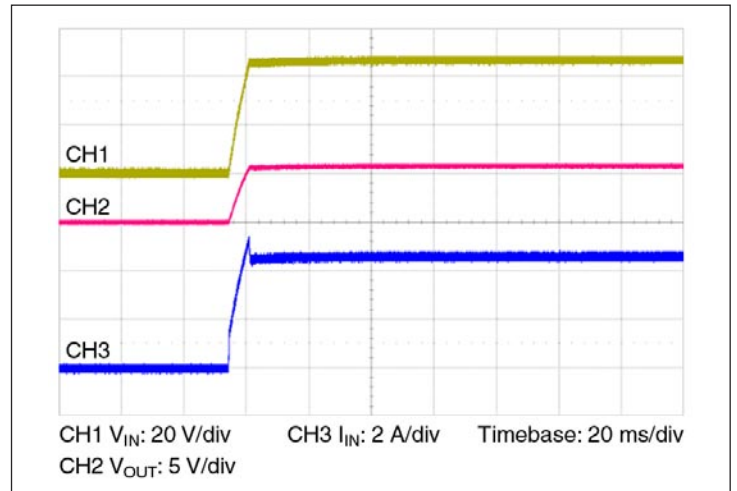

Figure 10 — Start up from application of V_{IN}; VC pre-applied C_{OUT} = 4000 μF
- **Normal operation (VC applied prior to V_{IN}):** In this case the controller is active prior to ramping the input. When the input voltage is applied, the VTM module output voltage will track the input (See Figure 10). The inrush current is determined by the input voltage rate of rise and output capacitance. If the VC voltage is removed prior to the input reaching 26 V, the VTM may shut down.